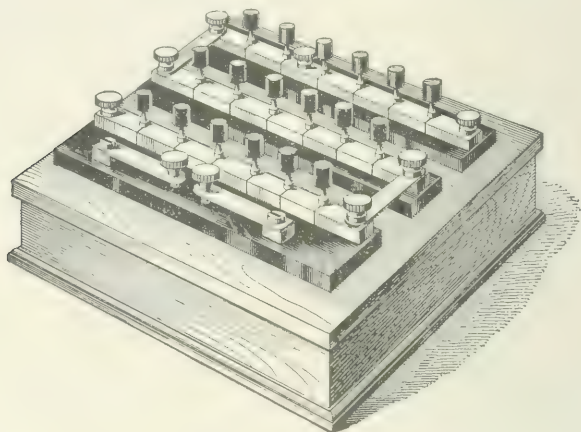

FIG. 39.
52. Rheostats in which the resistance is adjusted by means of removable plugs are employed in laboratory practice, where small currents are used and where great accuracy is required. The resistance coils in these rheostats are enclosed in a wooden box, and the actual resistance of each coil is carefully determined. A resistance box offering 10,000 ohms resistance is shown in Fig. 39, the separate coils offering resistances from 1 ohm up to 5,000 ohms. The